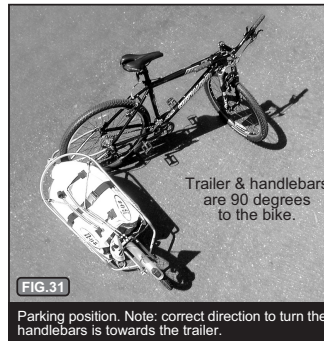

FIG. 31
• **PARK MODE:** Fig. 31 shows the bike and trailer in "Park Mode". Turn the bike 90 degrees to the trailer with handlebars turned 90 degrees to the bike. Lower trailer frame to the ground, contacting the parking skid (FIG. 1) and the trailer will stand up on its own. **NOTE:** This feature works best when the trailer is loaded and does not work on all bikes.